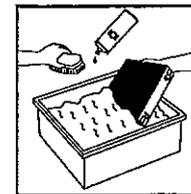

Fig. 31
- Place the filter assembly and permanent pre-filter screen in the sink and wash with dish detergent and water (Fig. 31).